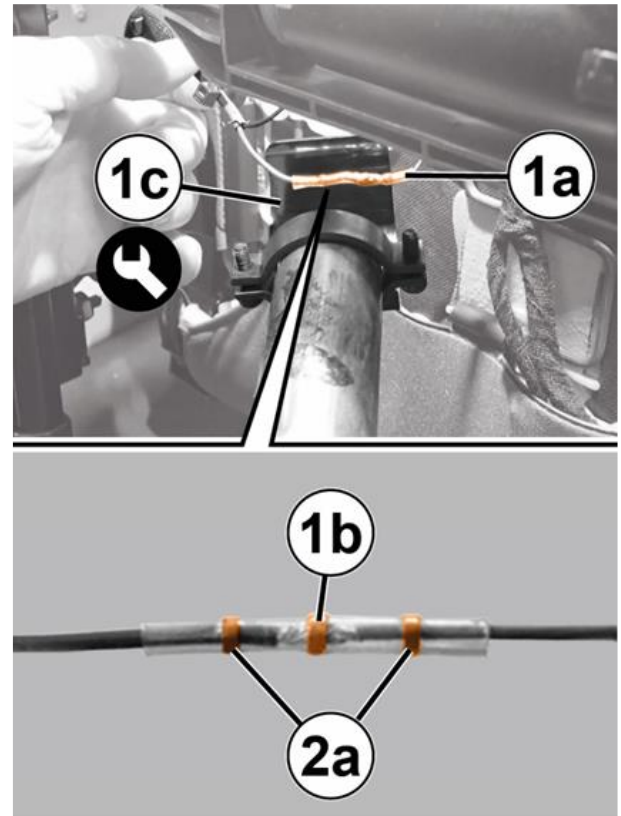

Figure 6 – Install Heat Sealing Tubes
5. Place the tin ring (1b) of the tube (1a) on the centerline of the strands, and with a hot-air plastic welding gun and the heat shield tool (1c), heat the heat-sealing tubes (Figure 6).